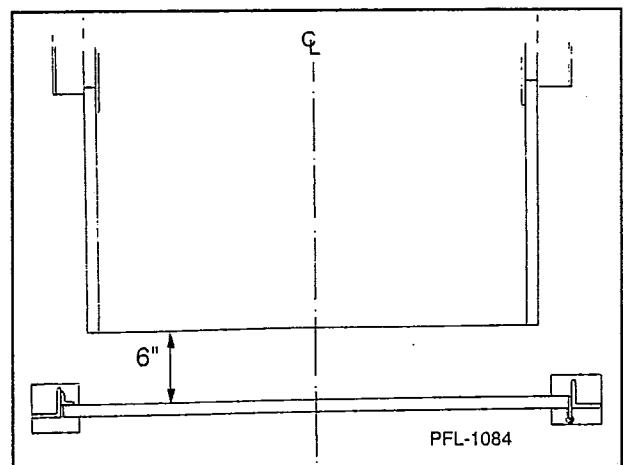

Figure 3
6. The ideal position of the gate is 6" from inside of gate panels to carriage. However, the gate can be located anywhere within a range of 4" minimum from inside of gate panel to carriage and a maximum of 6" from inside of gate panels to carriage. See Figure 3.